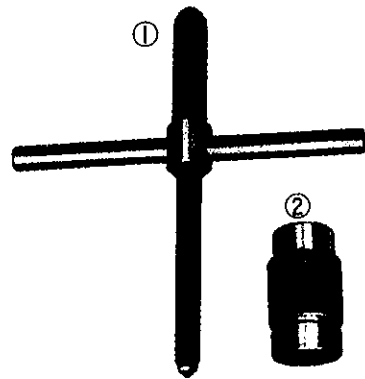

Fig.1
This tool is used to pull out the rotor and flywheel. (Fig.1)
- ② Flywheel
Adjust flywheel puller adaptor (Fig.1-②) to the flywheel screw diameter and fit onto the rotor puller (Fig.1-①). Next, after screwing the adaptor fully onto the flywheel, using a wrench as a stop, screw in the rotor puller and pull out the flywheel. (Fig.3)